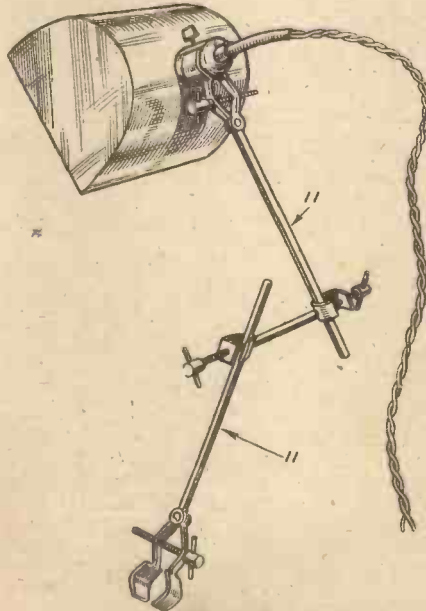

Fig. 6.—Details of the adjustable reading lamp, showing the retort clamps.
In the bedroom, a 6-watt car-bulb, with a small tin shade about 6ins. diameter, gives a satisfactory light, but a socket should be provided for a bedside reading-lamp containing a 12 or 18-watt bulb. The bases of old plug-in coils form very useful sockets, which can be placed at suitable points throughout the house where a good intensity of illumination is needed occasionally. Fig. 6, and the illustration above, explain the construction of a very useful and versatile lamp, which can be arranged, by a readjustment of the clamps, to throw intense light on the most awkward positions. The shade is semi-cylindrical, and is easily made from tin canisters, soldered at the joints. It should be large enough to surround the bulb completely. A bulb-holder with a built-in switch is used. Retort clamps (11), of the type used to hold school laboratory apparatus, make an ideal stand, which can be attached to any support. When used as a bedside reading lamp, it clamps neatly to the top rail of the bed, throwing the light just where it is needed.